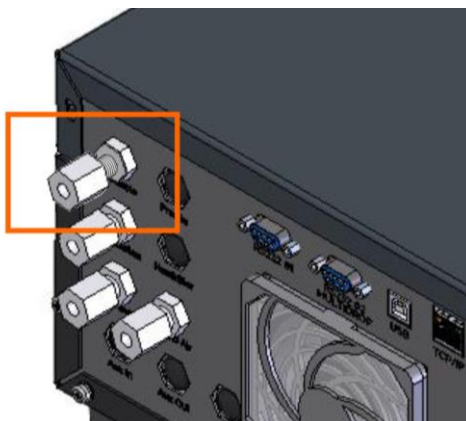

Figure 32 – Replace Nut Loosely
4. Refer to Figure 32. Replace the nut loosely, only 2 or 3 threads, on the sample port.